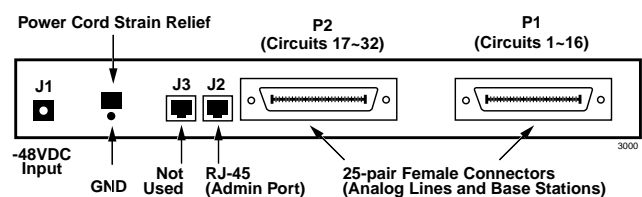

Figure 16-22 BSIA RJ-45 Jack (back side)
3. To prevent accidental removal of the power cord connected to J1 on the BSIA, tie wrap the power cord to the power strain relief above the ground screw on the BSIA (see Figure 16-22).
2. Insert the RJ-45 connector into the back of the BSIA (J2) (see Figure 16-22)